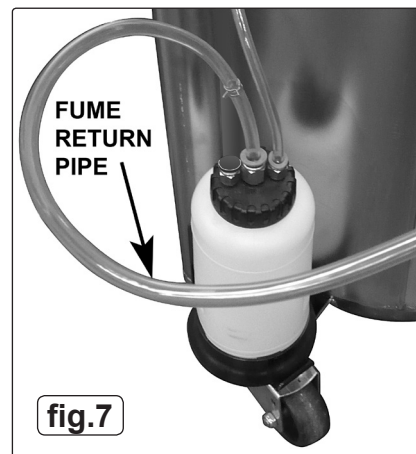

fig.7
- 4.16. **Fume venting system.** The fume venting system is designed to protect the operator from fumes during operation of the unit. The fumes are collected at the top of the unit (see fig.3-13) and are fed through a plastic pipe to a small container mounted at the bottom of the unit (see fig.7). Small amounts of fuel will condense in this container before the fumes are fed through the fume return pipe back to the source tank/vehicle. Periodically check the fume container for accumulated fuel and empty it if the container is more than 1/3 full. Dispose of any fuel according to local authority regulations.